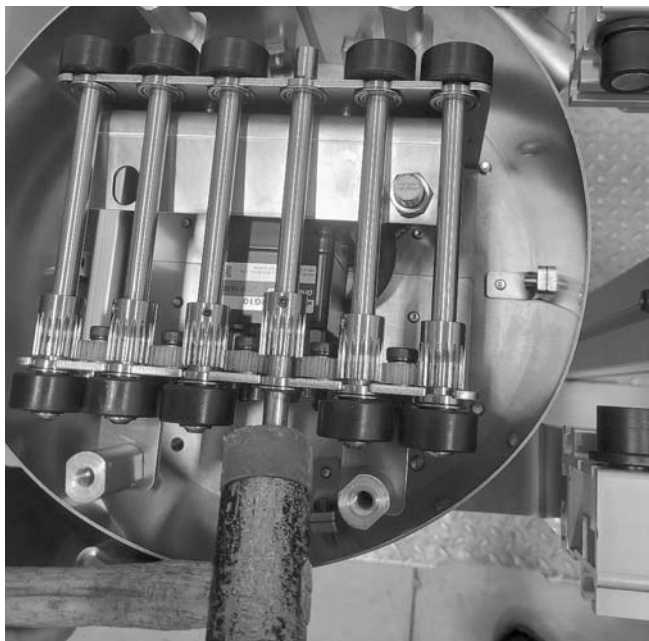

Figure 144
10. To reinstall tap from opposite end (**Figure 144**).